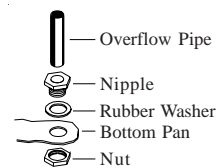

Fig. 5
- **Install overflow assembly.** Remove nut and place nipple through the hole in the pan, with the rubber washer between the pan and the head of the drain nipple (Fig. 5). Screw on nut and draw up tight against bottom of pan. Insert overflow pipe in nipple to retain water. Overflow pipe may be removed to drain pan when necessary. A garden hose may be screwed on the drain nipple to drain water away from your unit.